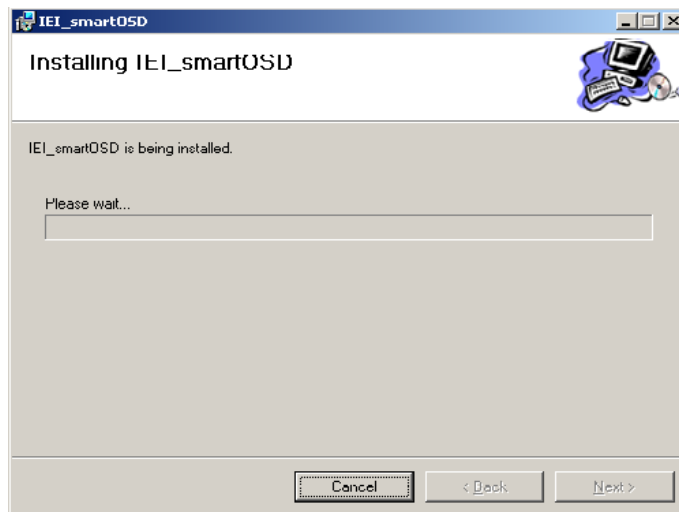

Figure C-4: smartOSD Installation Progress
Step 10: The program starts to install and the progress bar shown in Figure C-4 appears.